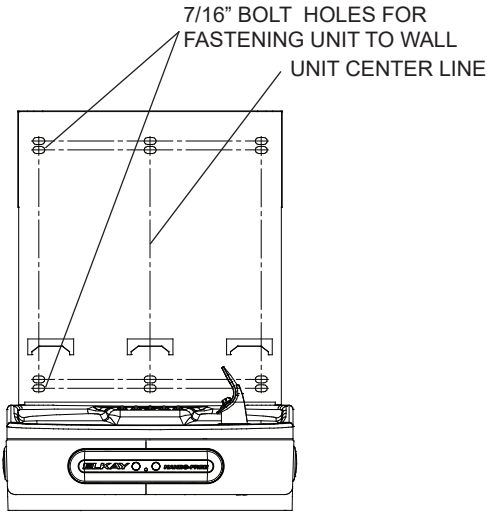

Fig. 8
- 4) **Install wall mounting plate** to wall using six (6) 7/16" obround mounting holes (mounting bolts not included) (See Fig. 8). Use appropriate fasteners for your wall type.